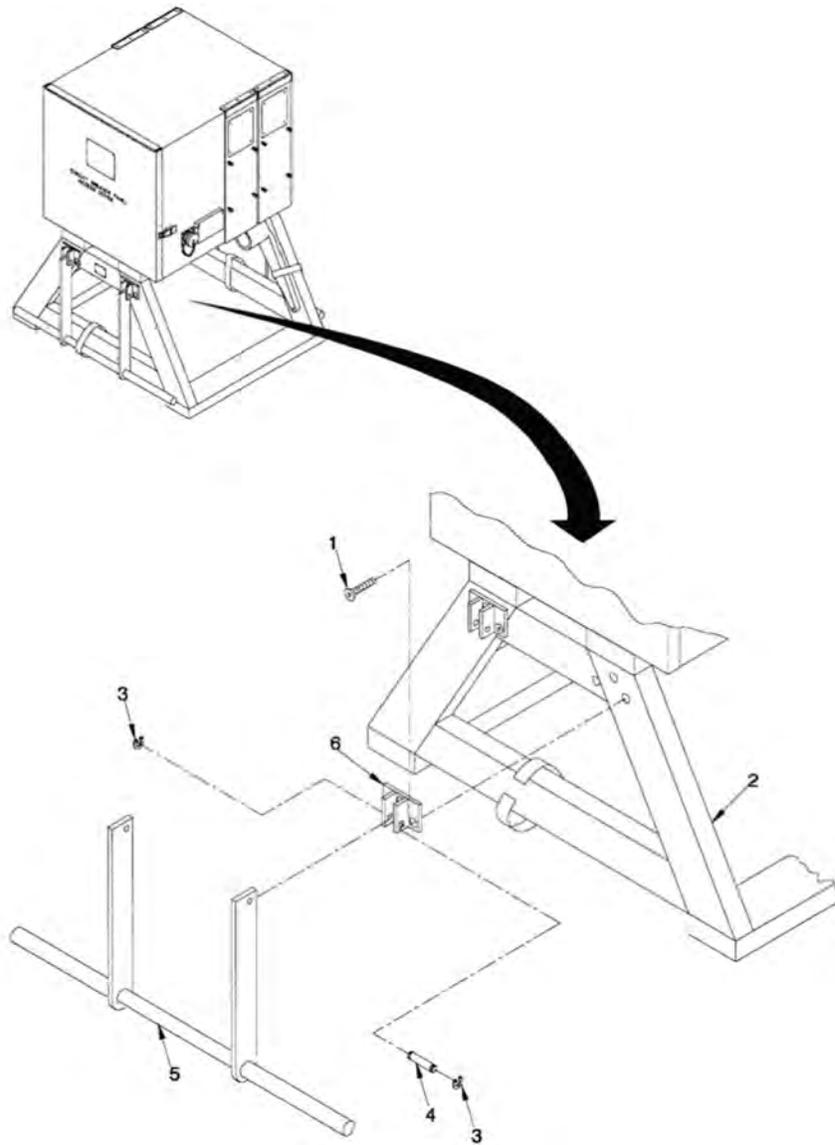

Figure 1. Pedestal Handle and Mounting Bracket Assembly.
1. Remove bracket pin (Figure 1, Item 4) by removing retaining ring (Figure 1, Item 3). Grasp retaining ring with pliers and pull away from bracket pin (Figure 1, Item 4). Remove bracket pin.
2. Remove opposite bracket pin and retaining ring using procedures contained in step 1 above. Handle (Figure 1, Item 5) should be free. Remove handle.
3. To remove the handle mounting bracket (Figure 1, Item 6), remove and retain three screws (Figure 1, Item 1) securing mounting bracket (Figure 1, Item 6) to mounting base (Figure 1, Item 2). Remove mounting bracket.
4. To replace the mounting bracket (Figure 1, Item 6), position mounting bracket on base (Figure 1, Item 2) and secure by installing three screws (Figure 1, Item 1).
5. Position handle (Figure 1, Item 5) in mounting bracket (Figure 1, Item 6) and slide bracket pin (Figure 1, Item 4) through holes in mounting bracket (Figure 1, Item 6) and handle (Figure 1, Item 5). Install retaining rings (Figure 1, Item 3) on bracket pin.